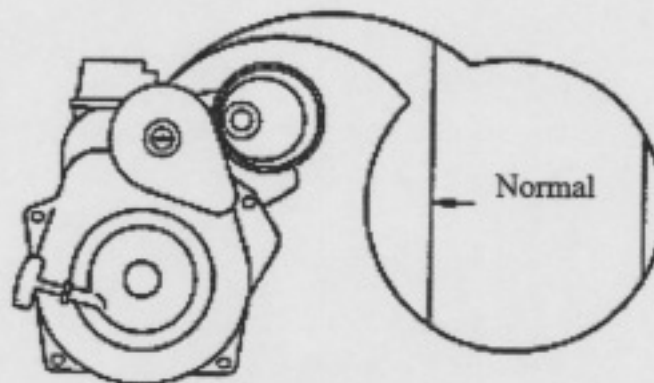

Figure C-4. Air Intake Cover, Normal Operation
5. Check that the air intake cover (2) is in the Normal operating (summer) position as indicated on tip of filter cover (Figure C-4).
5. Check that the air intake cover is in the Normal operating (summer) position as indicated on the top of the filter cover (Figure C-4).